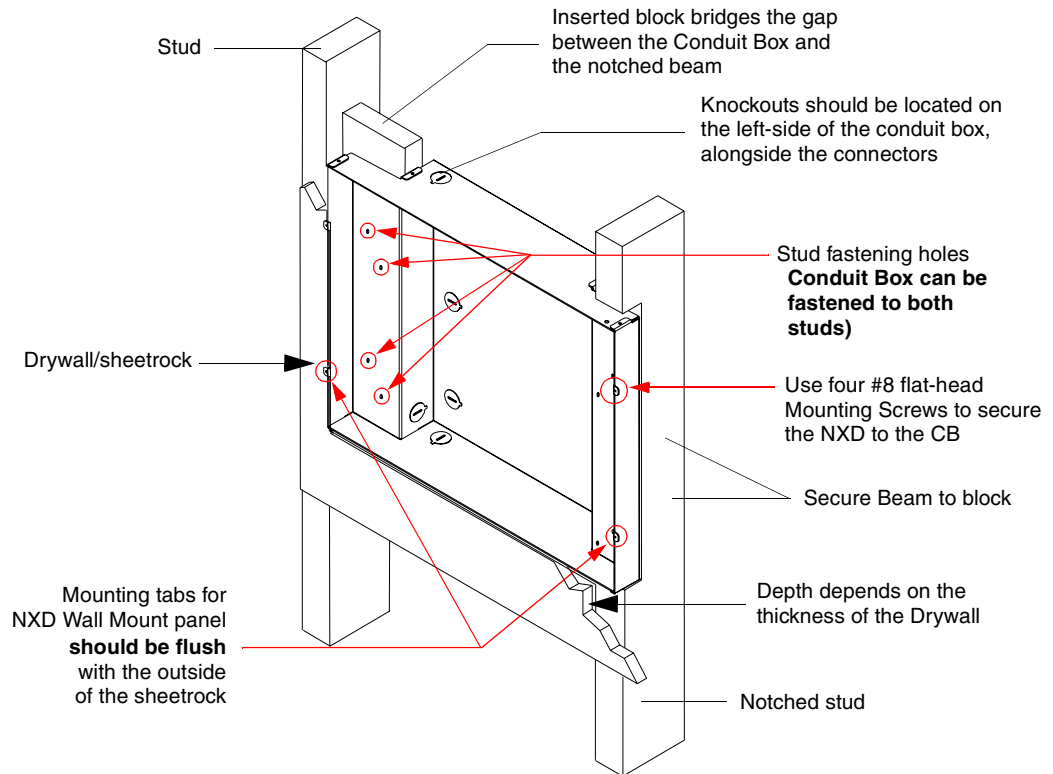

FIG. 56 Screw locations for conduit box attachment in a pre-wall installation
- Fasten the CB-TP17 to the **Notched stud/beam** through the stud fastening holes, located on the inside of the conduit box (FIG. 56), by using either nails or screws.
- Secure the perpendicular block to the **Non-Notched stud/beam** (FIG. 56) by using either nails or screws.
- Fasten the CB-TP17 to the **block** through the stud fastening holes, located on the inside of the Conduit Box (FIG. 56), by using either nails or screws.
- Remove any necessary wiring knockouts from the (optional) conduit box (CB-TP17) (FIG. 56) where the necessary cables are threaded through for connection to the touch panel.